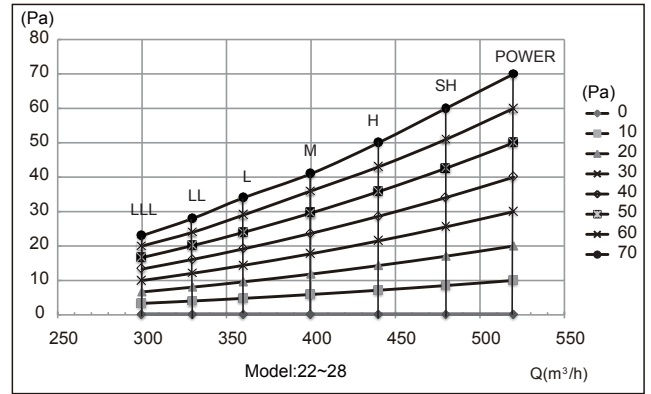
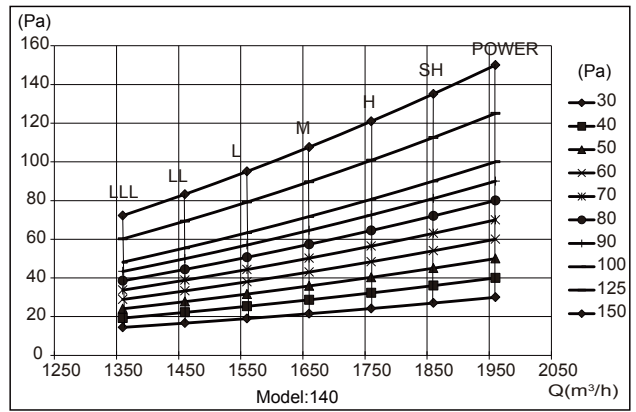

Fig. 6-2
Fig. 6-10
3. Before installing the air duct, ensure that the static pressure of the air duct is within the permitted range of the indoor unit (Refer to the IDU technical manual). Figure 6.2 to Figure 6.10 show the static pressure curve for indoor units.